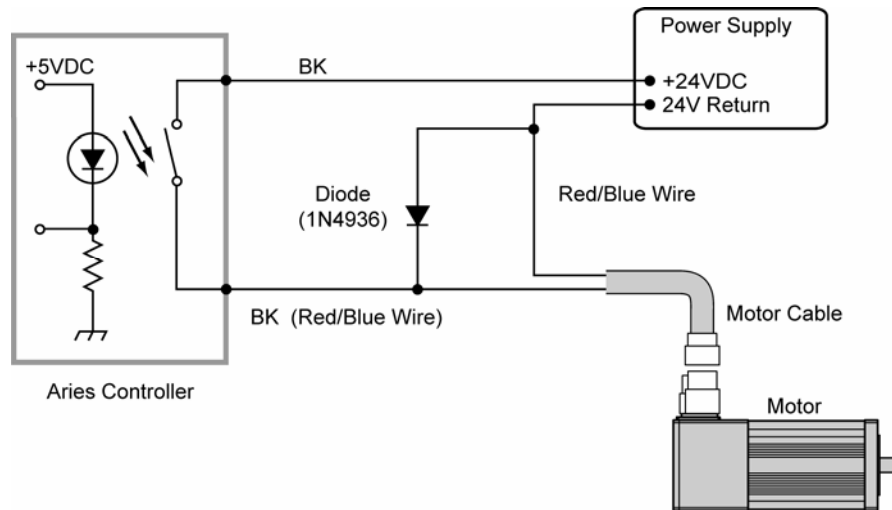

Figure 24 Brake Relay Connection for Non-Parker Motors
3. Between the two red/blue wires, connect the fly-back diode. See Figure 24.
Figure 24 shows a typical installation.